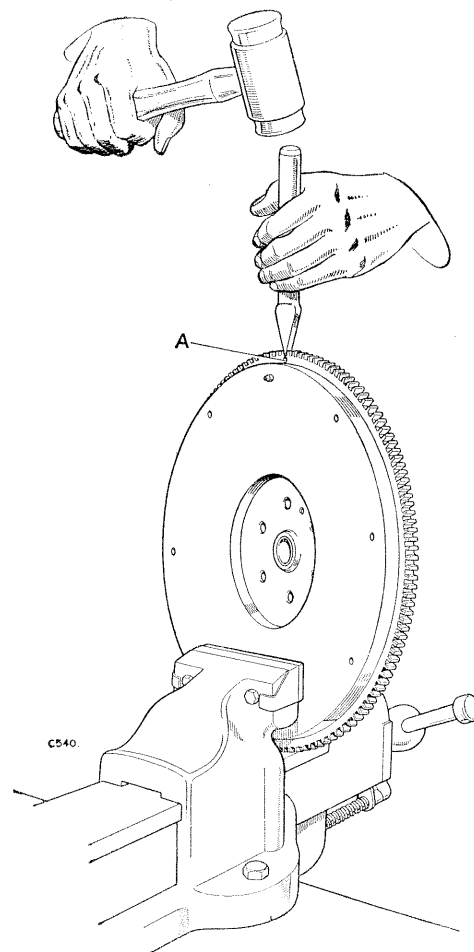

Fig. V-1—Removing an unserviceable starter ring
2. The operator should then stand in the position indicated by Fig. V-1, place a chisel immediately above the drilled hole, and strike it sharply.